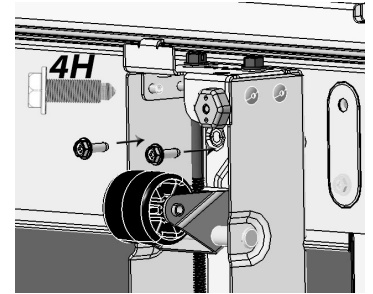

Fig. 4
- b. Using the 4H bolts from step 1, fasten the front of the Leveler Assembly to the refrigerator/freezer using a  $\frac{5}{16}$ " nut driver (Fig. 4).